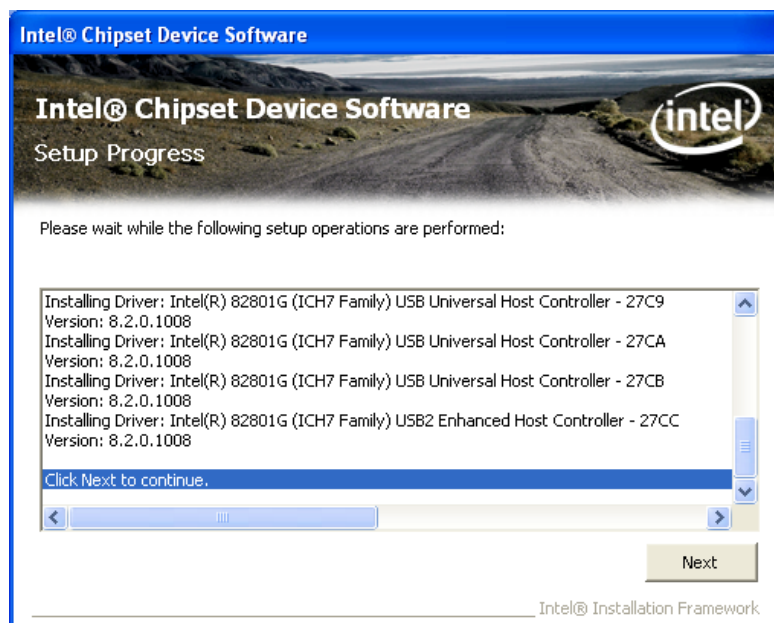

Figure 6-7: Chipset Driver Setup Operations
Step 12: **Setup Operations** are performed as shown in Figure 6-7.